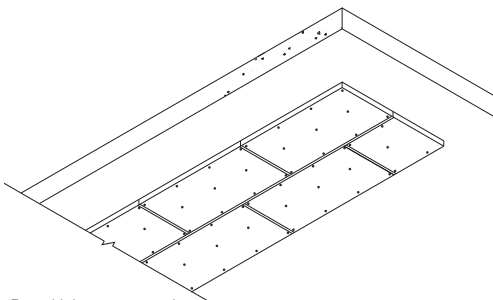
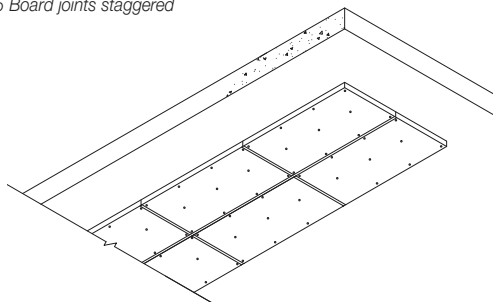

Figure 5 Board joints staggered
Figure 6 Board joints squared
2. Board joints can be either staggered (see Figure 5) or squared (see Figure 6) and taped with 96 mm wide silver *Kingspan* Insulation Tape. Fasteners along each length - no less than 50 mm - no more than 150 mm from edge of board, 3 No. fasteners along the middle (offset from edge positions as per diagram Figure 3).